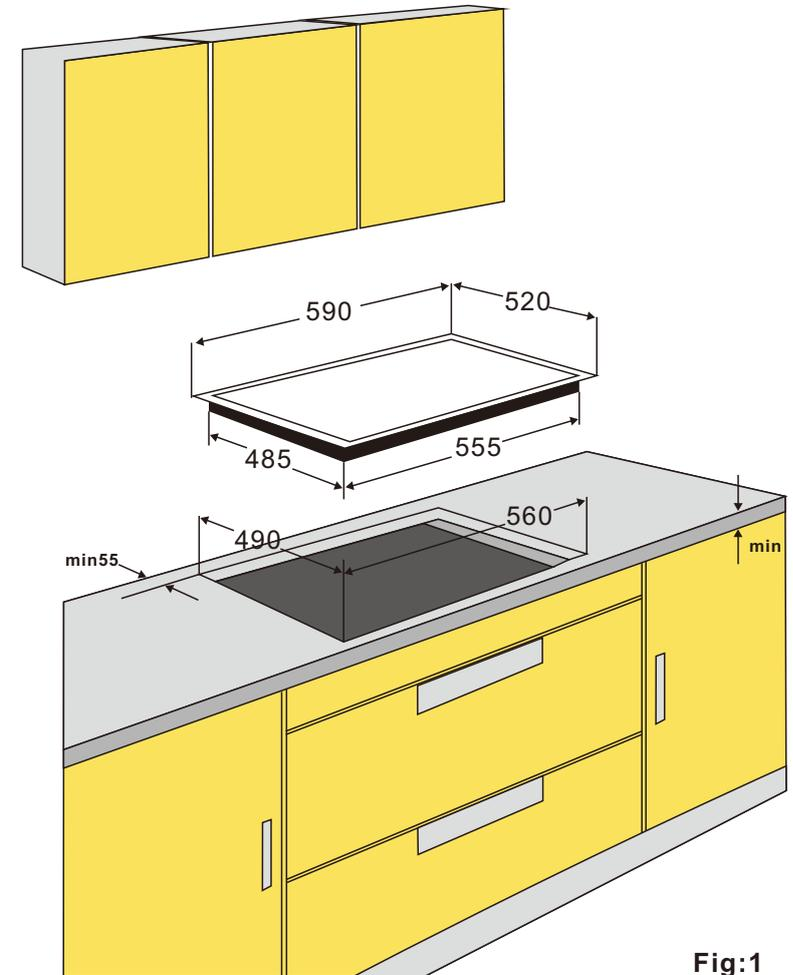

Fig:1
- The distance between the edge of your appliance and the side and rear walls (or partitions) must be at least 55 millimetres (fig:1)